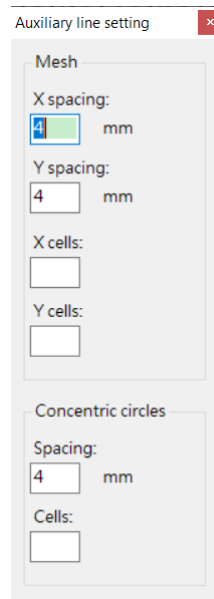

Fig 5-81 Spacing and Cell setup for mesh and Concentric circles.
- (7) Auxiliary line setting  : individually setup the mesh or concentric circle spacing and cell size. See Fig 5-81